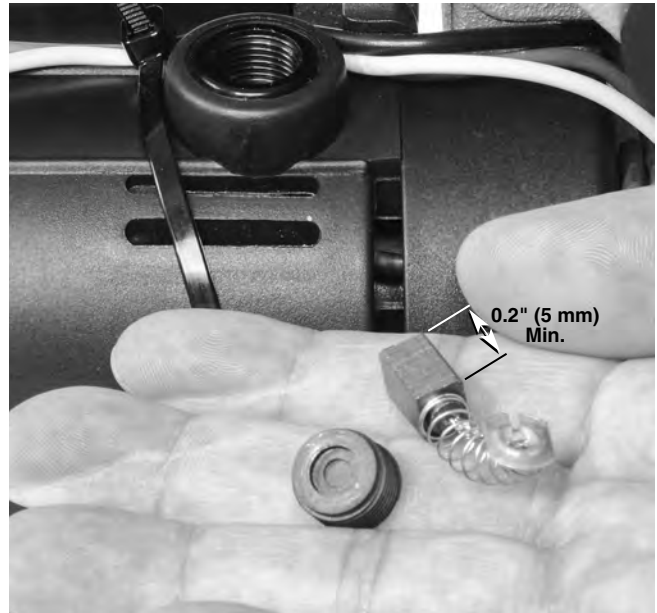
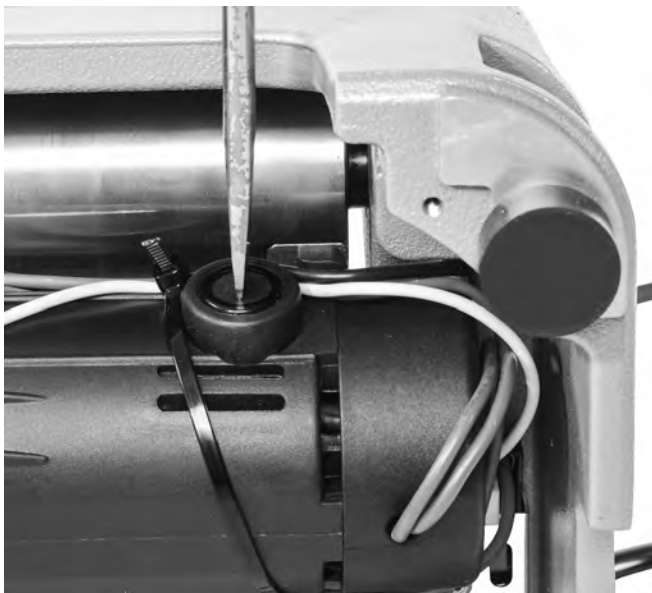

Figure 18 – Inspect Brush Length
Figure 17 – Removing Brush Cap
3. Use a screwdriver to unscrew and remove the brush caps (*Figure 17*). Gently remove the carbon brushes and check the length (*Figure 18*). If brush length is less than 5 mm (0.2"), change brushes.